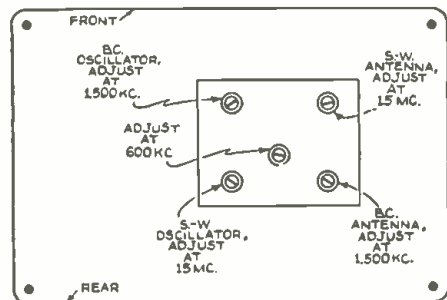

Fig. 1. Bottom view of the cabinet.
The Wurlitzer Model 616 has both a magazine switch and a coin-box transformer, which makes the installation of a remote box a matter of simply terminating the 2 wires from the remote unit to a male plug which is inserted into the receptacle on the transformer box marked "Remote." See Fig. 1.
I.F. circuits are shown in Figs. 1 and 2. The I.F. amplifier may be aligned with the chassis out of the cabinet but with the loop antenna plugged in. When aligning the R.F. amplifier the "B" batteries must be in place, the receiver and loop antenna correctly mounted in the cabinet and the "A" battery outside of the cabinet but connected to the set.